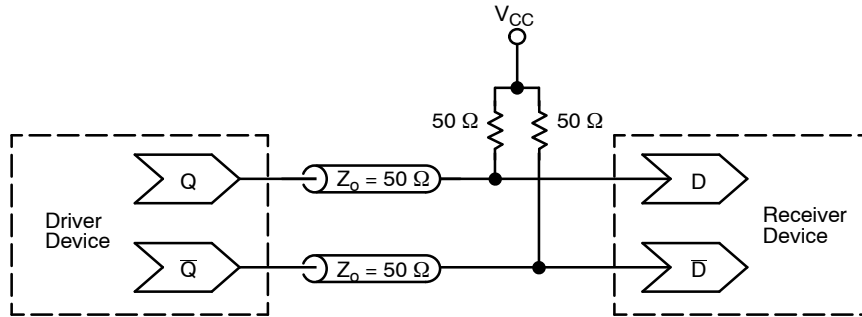

Figure 10. Typical Termination for Output Driver and Device Evaluation
4. CML outputs require 50 Ω receiver termination resistors to V_{CC} for proper operation (Figure 10).